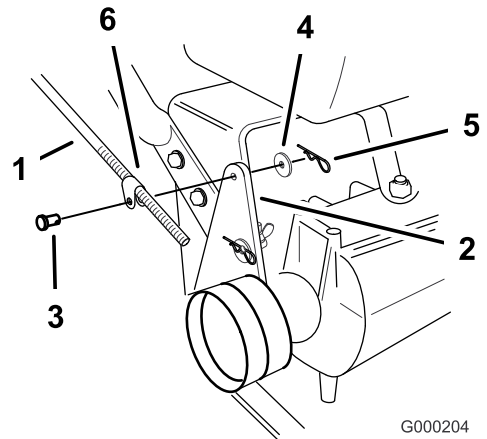

Figure 15
1. Remove hairpin cotter, washer, and clevis pin securing the control-rod fitting to the idler bracket (Figure 15).